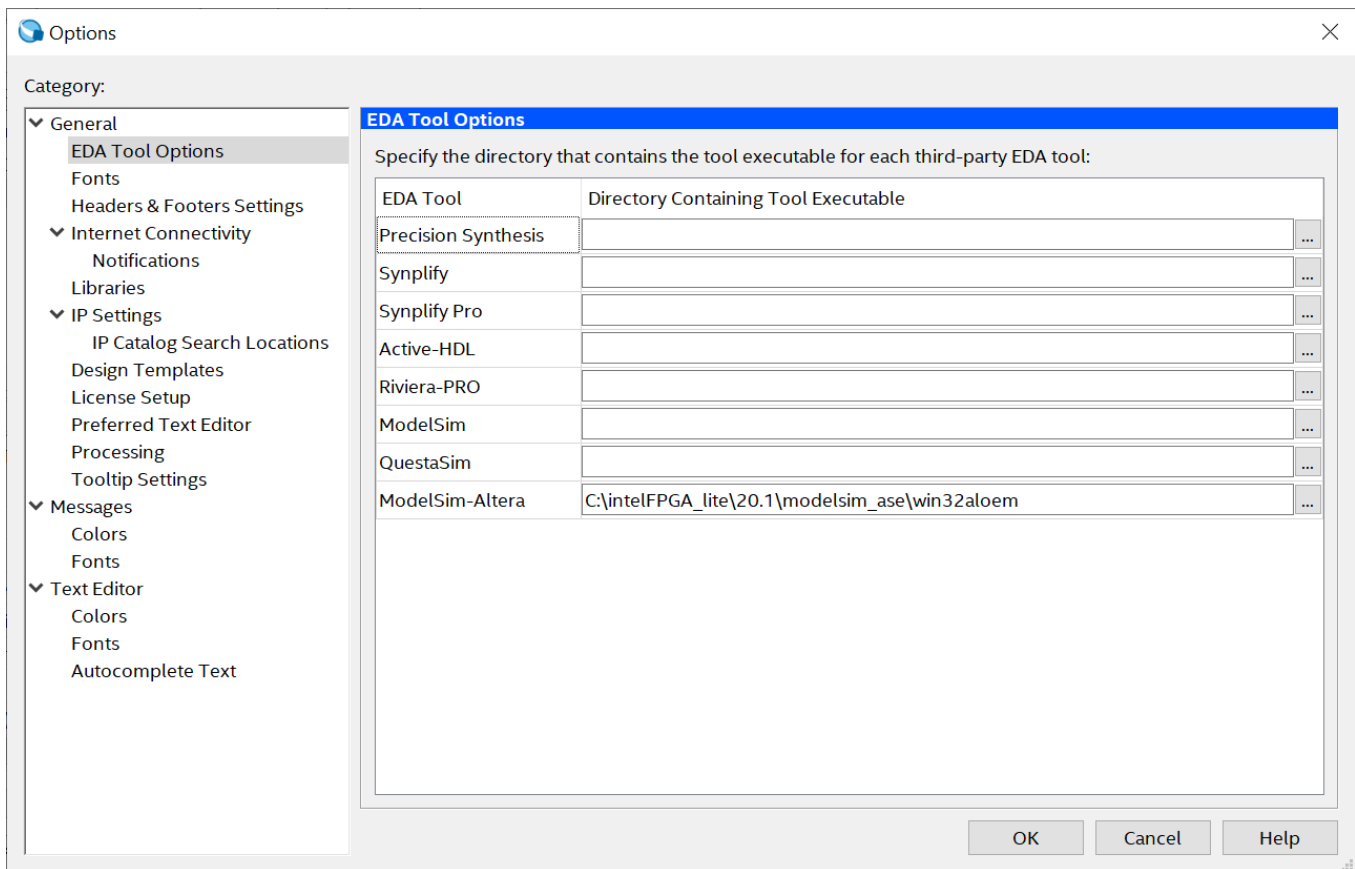

Figure 1. EDA Tool Options
2. Specify the **EDA Tool Settings** by clicking **Tools > Options > General > EDA Tool Options**. See Figure 1 for reference.
3. In the same window as Figure 1, enter the ModelSim-Intel FPGA Edition executable path in **ModelSim-Altera EDA Tool**. For Lite Edition, search in the directory where Intel Quartus Prime Lite Edition is installed: **\\intelFPGA_lite\\20.1\\modelsim_ase\\win32aloem**. Click **OK**.